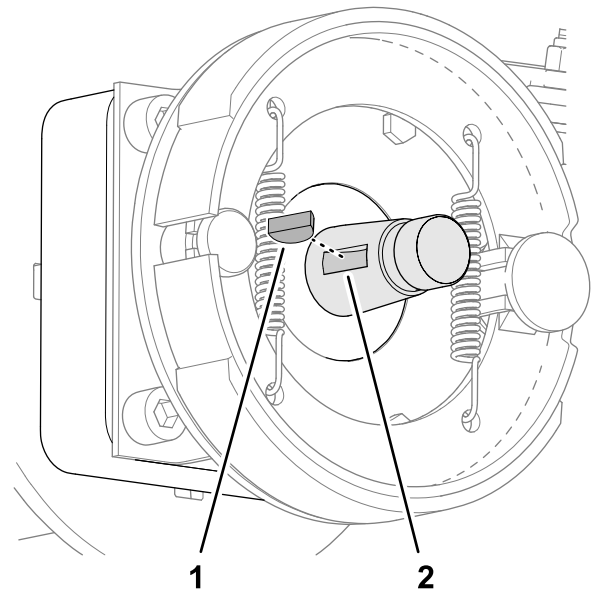

Figure 69
- Insert the woodruff key into the groove of the wheel-motor shaft (Figure 69).